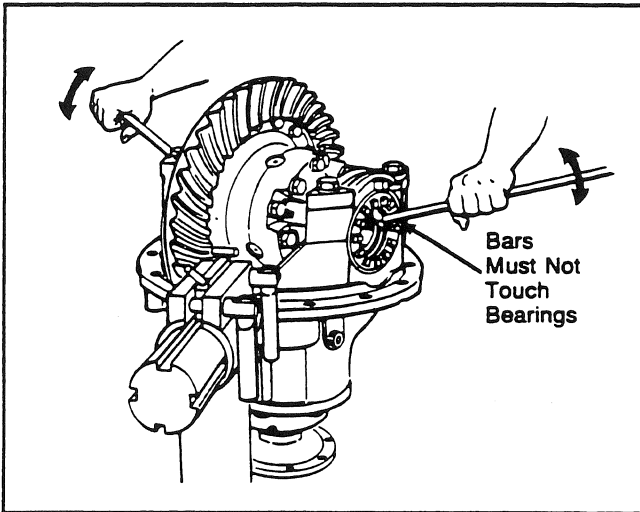

Fig. 67
- a) Use two pry bars installed between the adjusting rings and ends of the differential case. The pry bars **must not** touch the differential bearings (see Fig. 67).